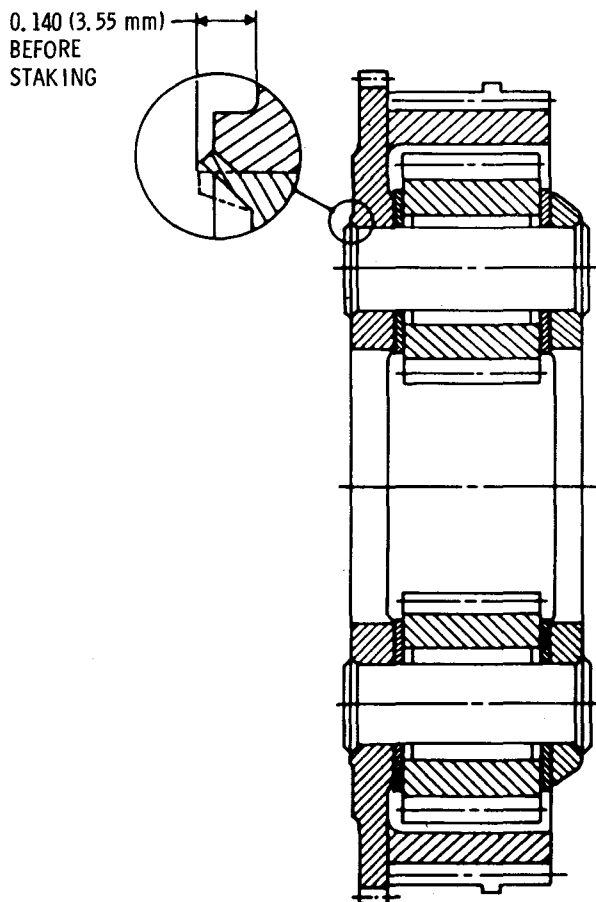

Fig. 6-30. Reverse-range planetary carrier assembly—cross-section view
(3) Coat the bore of a pinion 11 with oil-soluble grease, and install the pinion onto the alining tool.
(4) Install twenty-two pinion rollers 12 into the space between the alining tool and the pinion bore. Install the second thrust washer 13 onto the pinion.
(5) Position carrier 15, hub upward, on a level surface. Remove the alining tool and install the assembled pinion parts into the carrier. Insert the alining tool to align the assembled pinion parts with the spindle pin bore in the carrier.
(6) Repeat step (1) through (5), above, for installation of the remaining three pinion assemblies.
(7) Start spindle 14 into the chamfered spindle bore of carrier 15. Press the spindle into the bore until it projects 0.130 to 0.150 inch (3.30 to 3.81 mm) below the location shown in figure 6-30.